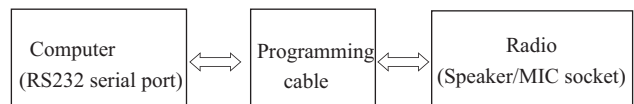

Figure 4-1
- b. Connect the radio to the computer serial port with the specified programming line (KSPL-08), See Figure 4-1.
As shown in figure 4-1,connect the radio to the radio communication port with the specified testing cable.